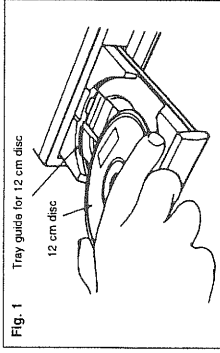

Fig. 1
- When using 12 cm diameter discs, make sure the outer edge matches the tray guide circumference (Fig. 1), and when using CD singles (8 cm diameter), match the outer edge with the inner tray guide circumference (Fig. 2).